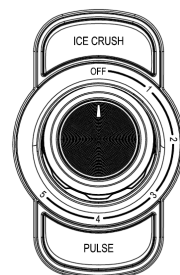

Fig. 2
2. Ensure the Speed Selector to "0" Position, then plug into power outlet and set Speed Selector to your desired setting. You can press down the Pulse button or Ice crush without releasing it if want to accelerate the process of blending. The detailed information is shown in below (See Fig. 2).